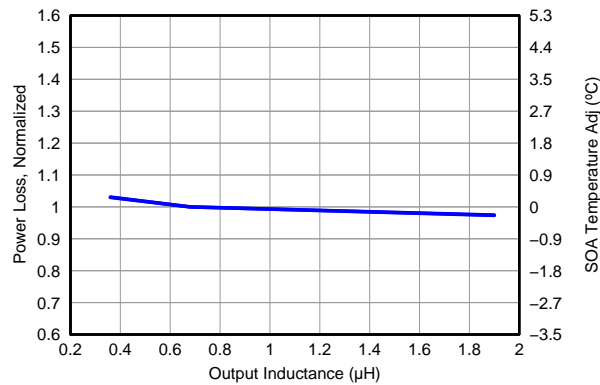

Figure 9. Normalized Power Loss vs. Output Inductance
- Normalized Power Loss for output inductor ≈ 1.05 (Figure 9)